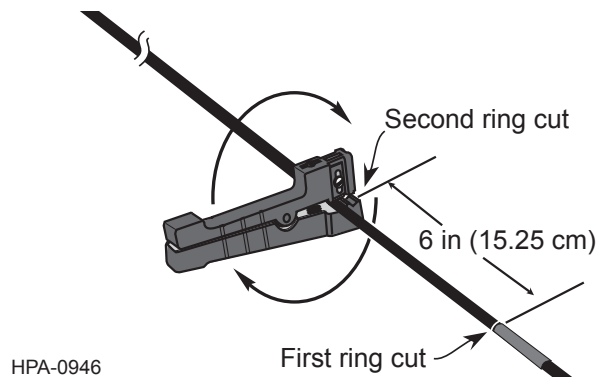

Figure 13
Step 3: Measure 6 in (15.25 cm) from the first ring cut (on the same side of the tape) and make a second ring cut at that point (Figure 13).